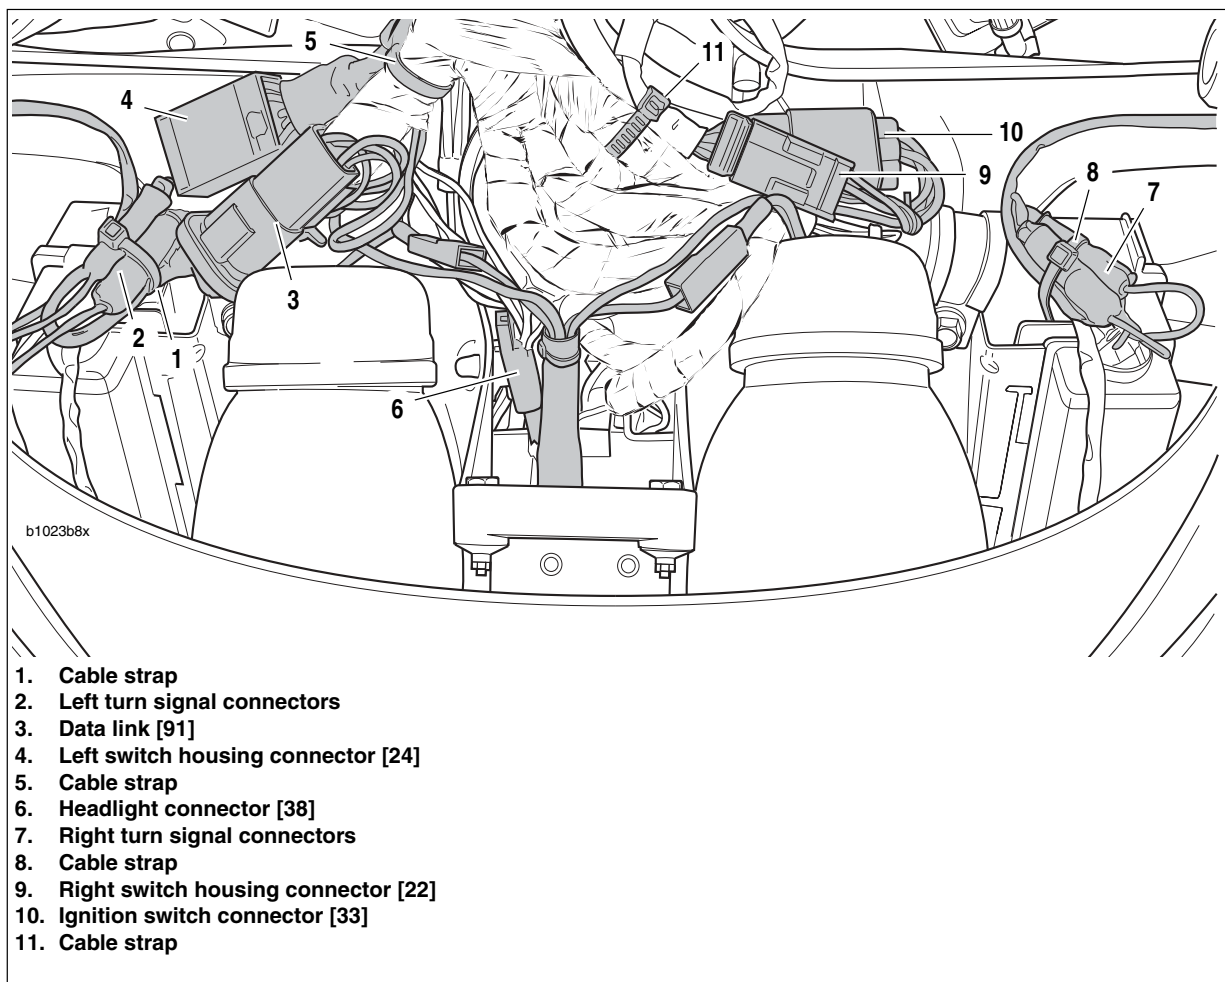

Figure 7-83. Fairing Wiring (viewed from beneath fairing)
15. See Figure 7-83. Verify proper fairing wire routing and cable strap locations.